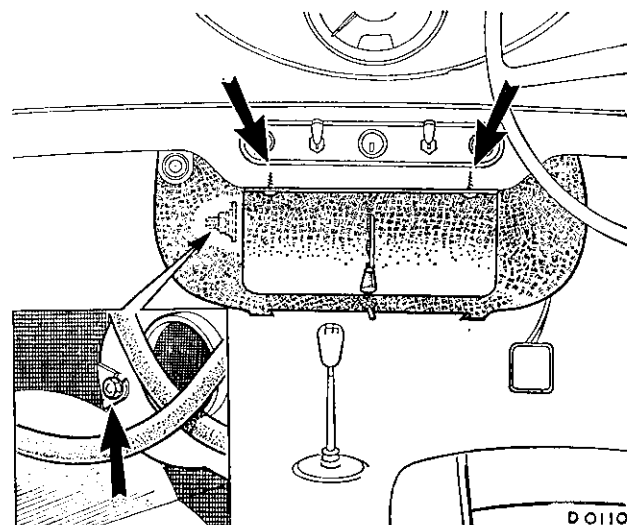

Fig. R.7
- (1) Disconnect the battery and drain the cooling system.
- (2) Remove the front floor covering to avoid damage by coolant when removing the heater pipes.
- (3) Disconnect the two electrical snap connectors below the parcel shelf and the blower switch connection from the ignition switch.
- (4) Remove the demister tube covers, pull off the demister tubes and release the fresh-air intake hose.
- (5) Release the heater water hose clips and pull the hoses from the heater unit.
- (6) Slacken the nut securing the rear of the unit to the bracket, and remove the two screws beneath the parcel shelf securing the front of the heater (Fig. R.7). Lift the unit from the slotted rear brackets, hold the fingers over the matrix pipes and lift the unit out of the car. Drain the coolant from the unit.